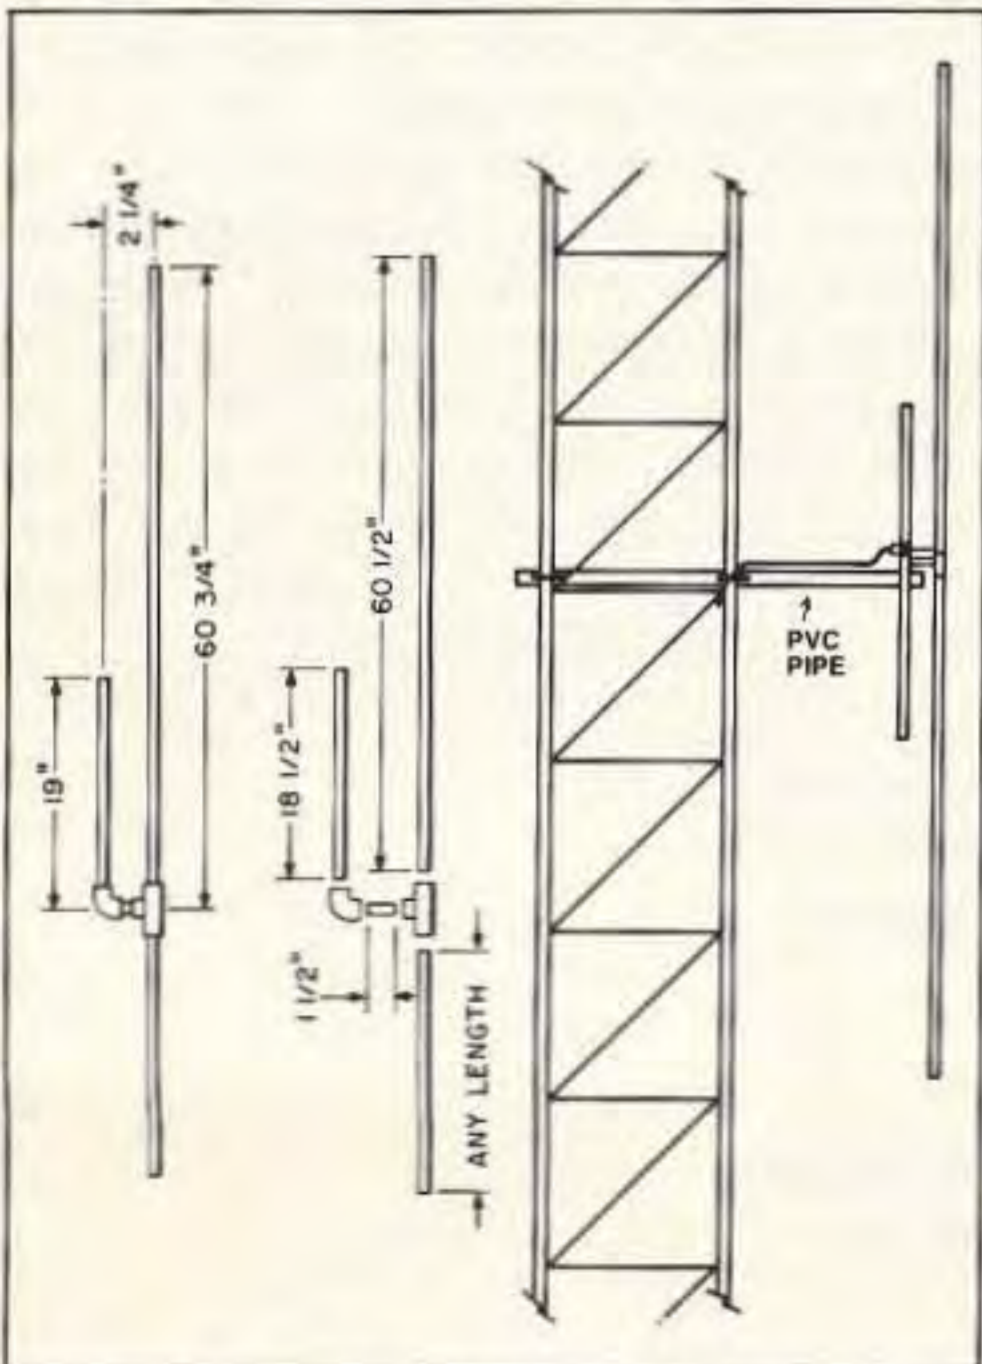

Figure 1. The Copper Cactus, and a typical Double Cactus installation.
1. Cut a 10-foot piece of 1/2" copper water pipe into the following sizes: 60-1/2", 18-3/4", and 1-1/2". The mounting tube may be any length. (You will have a section about 3 1/2 feet long to cut the mounting piece from.) See Figures 1 and 2. Special thanks go to Gary Rogers WR7L for assistance with the technical drawing.